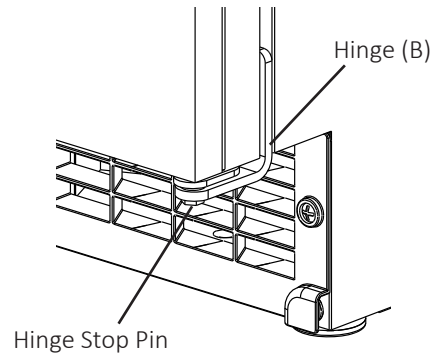

Fig. 21
- 9) Attach the door to hinge (A), then continue to maintain a hold on the door. Screw the hinge stop pin into hinge (B) until it is tight (See Fig. 21).